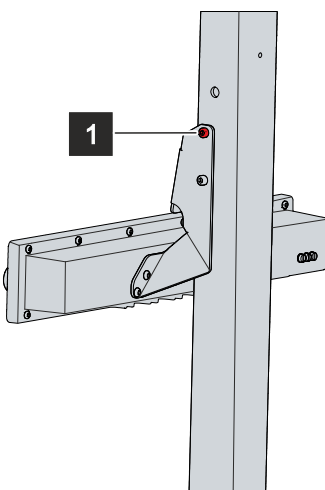

Fig. 11: Functional earth
The EMC of the device is improved by functional earthing. The functional earthing is established via the mounting arm adapter during mounting on the mounting arm. This is ensured by the paint-free surface on the mounting arm adapter. The mounting arm adapter is screwed to the mounting arm on this surface (1) (see Fig. 11). In this way, the functional earthing is established starting from the mounting arm via the screw connections on the push button extension.